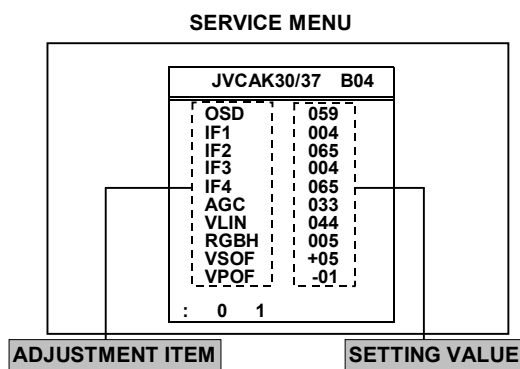

Fig.2
- 4) The SERVICE MENU screen (Fig.2) will be displayed.